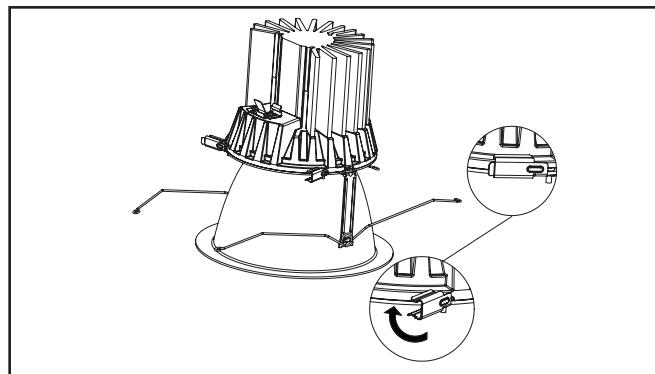

Figure 9
8. Rotate side clips (3) into place to securely attach trim assembly to LED engine (Figure 9.).